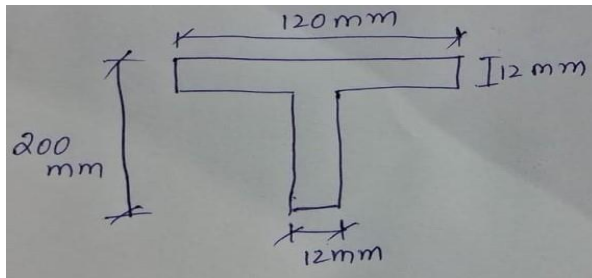

Fig. Q 5 (b)
- b. A T-section as shown in Fig. Q 5(b) has a flange of $120 \text{ mm} \times 12 \text{ mm}$ and overall depth 200 mm , with web 12 mm thick is loaded such that, at a section it has a moment of 20 kN-m and shear force of 120 kN . Sketch the bending and shear stress distribution diagram, marking the salient values. 12 (2:3:1.3.1)